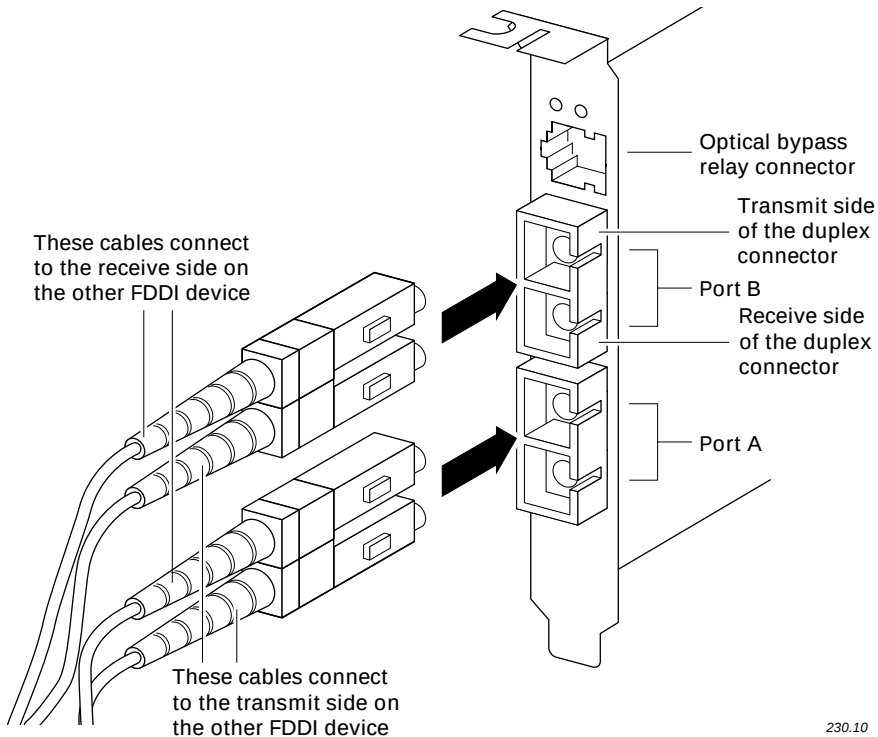

**Figure 2-6. Attaching two duplex fiber-optic cables to a dual-attachment FDDI-fiber card**
- The dual-attachment FDDI-fiber card has two duplex SC connectors (see Figure 2-6). (The exact shape of the connectors on the duplex fiber-optic cables might be different from those illustrated, depending on the cable manufacturer.)